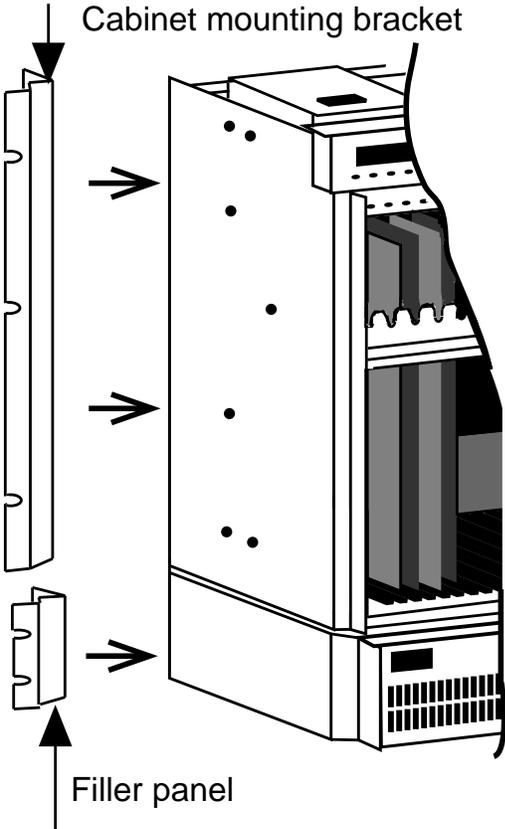

Figure 2-4. Installing Mounting Brackets onto MAP/100C
2. Locate the left and right mounting ear brackets (A10039 and A10038) and attach them to the side plate of the unit as shown in Figure 2-4. Secure them with four #10 screws for each bracket.
3. Locate the left and right mounting ear brackets (A10036-A and A10037-A) and attach them to the side plate of the unit as shown in Figure 2-4. Secure them with four #10 screws for each bracket.